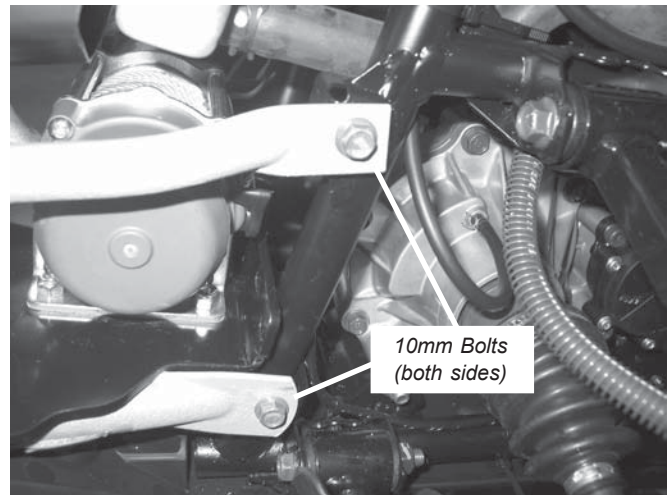

Figure 6 Reattach Front Bumper with Winch
6. Place the front bumper with attached winch assembly back onto the vehicle frame, figure 6. Reinstall the four 10mm bolts and two 8mm bolts that were removed in steps 2. Tighten these bolts at this time.